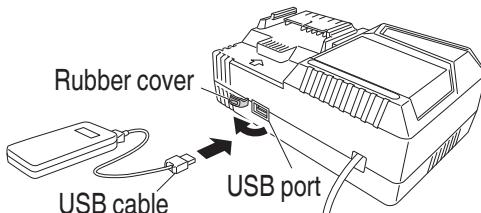

Fig. 15
(2) Connect the USB cable. (**Fig. 15**)